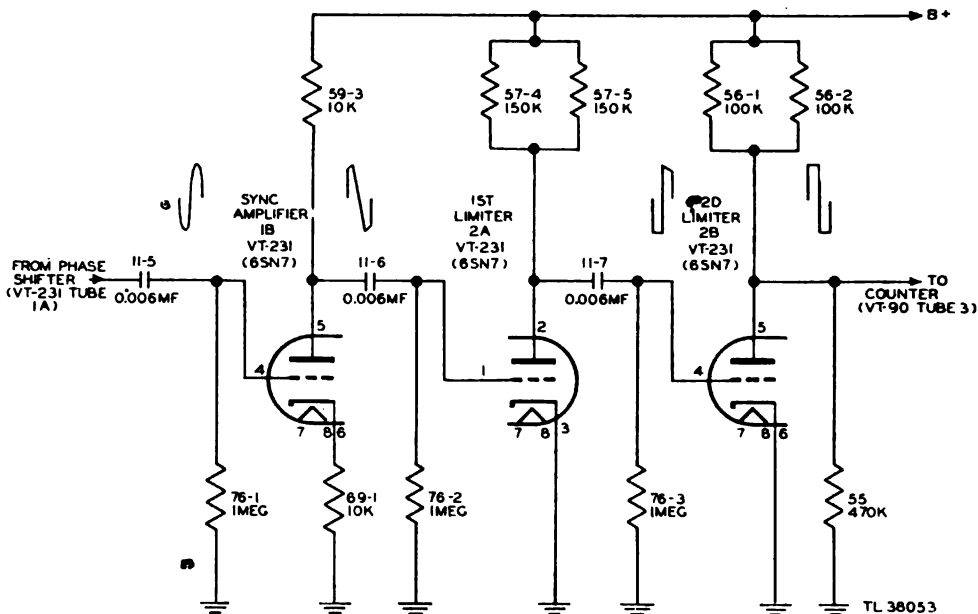

Figure 45. Square wave generator, partial schematic.
b. The output from tube 1B is coupled through capacitor 11-6 to the grid of the first limiter tube, 2A. The limiter tubes are operated at zero fixed bias and are normally conducting heavily; they are overdriven amplifiers used as limiting tubes. During a portion of the positive peaks of the input voltage, tube 2A is driven to saturation, and during a portion of the negative peaks the tube is driven to cut-off. Thus, the positive and negative peaks are flattened. The output voltage of 2A is applied through capacitor 11-7 to tube 2B. Since this input voltage is considerably greater than the voltage input to the preceding tube, the tube will be operated at either saturation or cut-off during the entire cycle and the output of 2A will be further squared. The output of tube 2B is essentially a rectangular wave, figure 45.